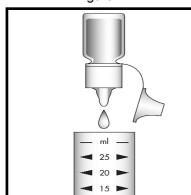

Figure 2
1. Add **5 drops** of A-1402 Stabilizer Solution to the empty sample cup (fig. 2).
3. Add **2 drops** of A-1401 Catalyzer Solution (fig. 2). Stir to mix the contents of the cup.
4. Add **2 drops** of A-1400 Activator Solution (fig. 2). Stir to mix the contents of the cup.